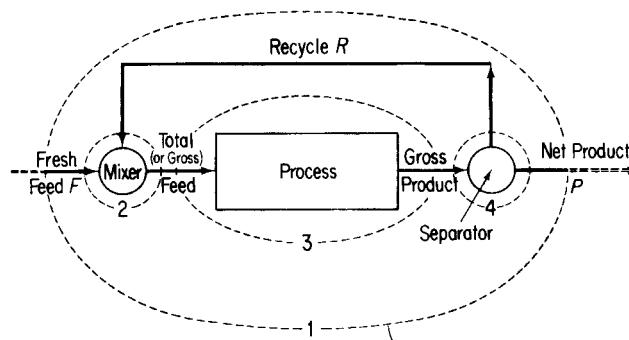

Figure 12.2 Process with recycle (the numbers designate possible system boundaries for the material balances).
- ❖ Examine Figure 12.2. You can write material balances for several different systems, **four** of which are shown by dashed lines in Figure 12.2 (**Overall balance 1, Mixer balance 2, Process balance 3 & Separator balance 4**).
- ❖ In addition, you can make balances (not shown in Figure 12.2) about **combinations of subsystems**, such as the **process plus the separator (3 plus 4)**, or the **mixing point plus the process (2 plus 3)**.